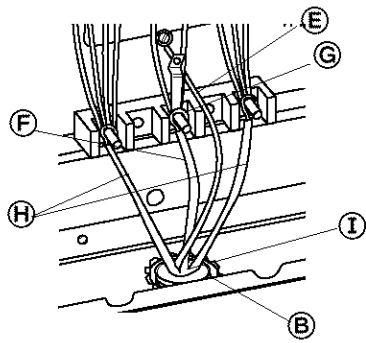

Figure 2
9. Connect the bare ground wire © from power supply cable to the range using the ground-link screw. **The ground wire must be attached first and must not contact any other terminal.** See Figure 2.
10. Connect the neutral wire (white wire) © to the center, silver-colored terminal screw © on the terminal block using the brass terminal nuts that are attached to the inside of the terminal block cover. See Figure 2.
11. Connect the other two wires © to the outer terminals on the terminal block. See Figure 2.